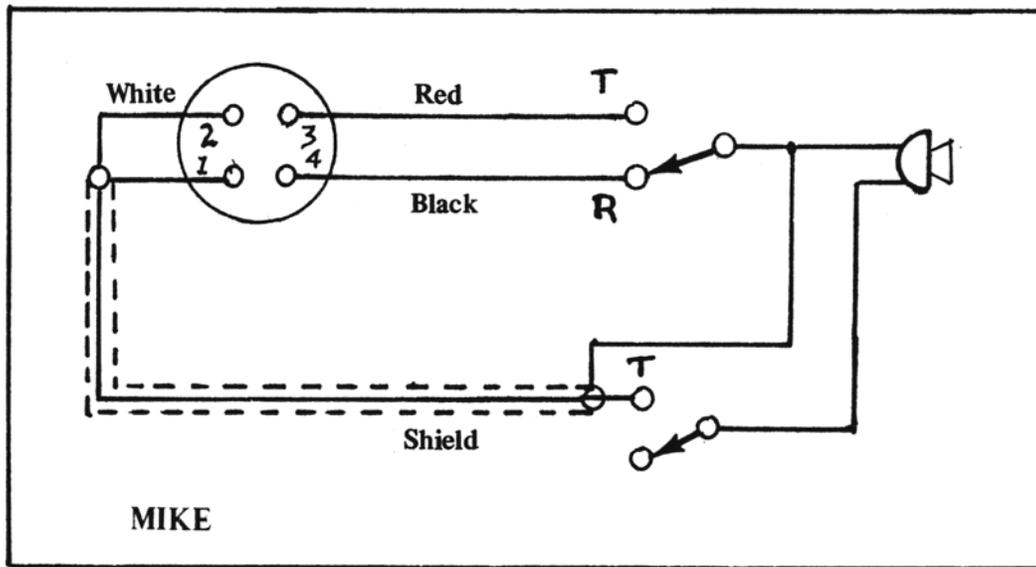

Fig. 1.
1. Cut leads so that they extend $7/16$ " beyond the plastic insulating jacket of the microphone cable. (See Fig. 1.)